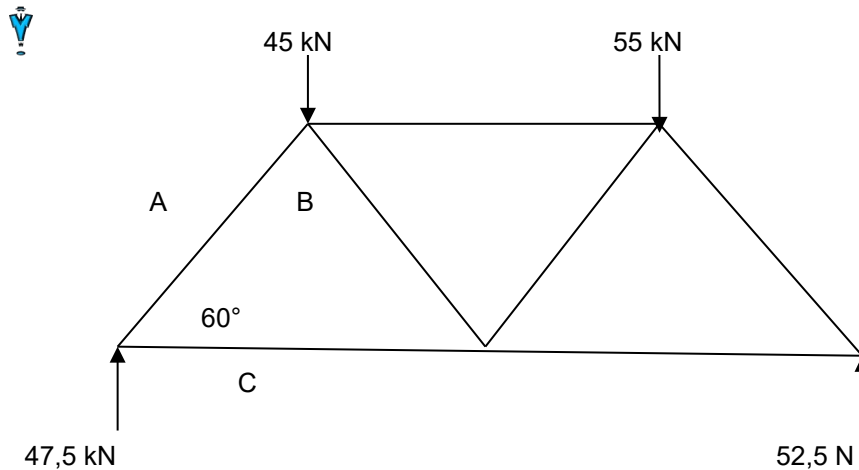

FIGURE 4
- 3.4 FIGURE 4 below shows a structure. Determine the magnitude and nature of the forces in members AB and BC.